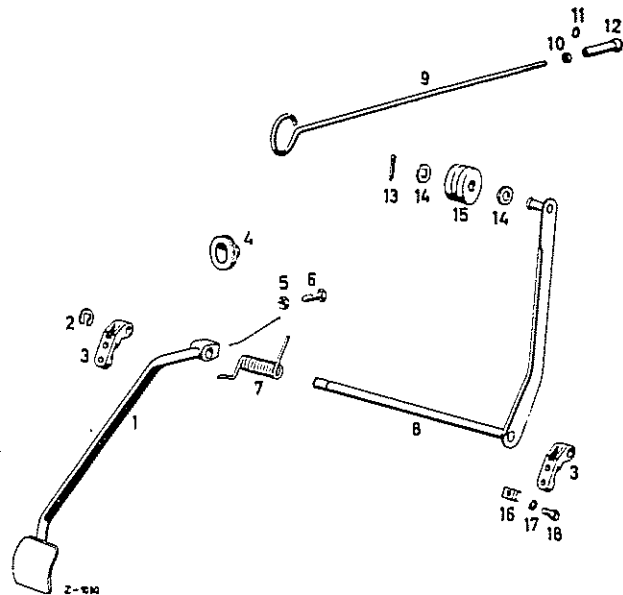

Fig. 30-1/2
- 2 b. On the 2nd version pull the cotter pin (13) out of the control shaft lever (8) and pull the pull rod (9) together with a damper
ring (15) and the washers (14) off the control shaft lever (Fig. 30-1/2).